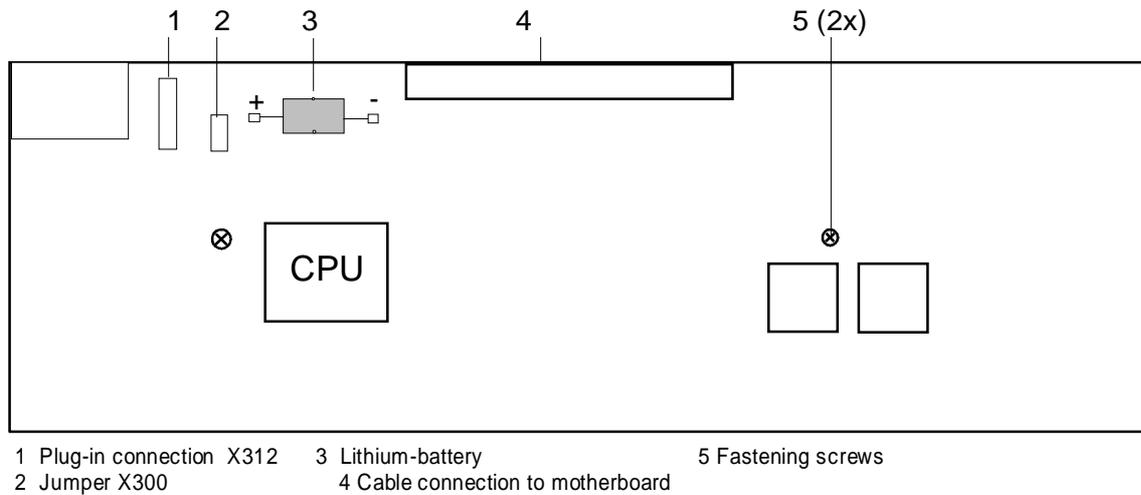

Fig. 4-2 Position of the RAM battery on the PCB (side where the components are fitted)
The position of the battery on the computer PCB is evident from Fig.4-2.
- Detach jumper X300 (cf. Fig. 4-2, pos. 2).
- Detach cable at plug connector X312 (cf. Fig. 4-2, pos. 1). The remaining cable connections can remain plugged in.
- Remove 2 fastening screws (cf. Fig. 4-2, pos. 5) on the computer PCB.
- Screw on computer PCB (cf. Fig. 4-2, pos. 5), establish plug connection X312 (cf. Fig. 4-2, pos. 1).
Caution! *Observe the polarity when fixing and soldering the battery (cf. Fig. 4-2 and marking on the PCB). A wrong polarity will lead to the destruction of components.*
- Plug jumper X300 (cf. Fig. 4-2, pos. 2).